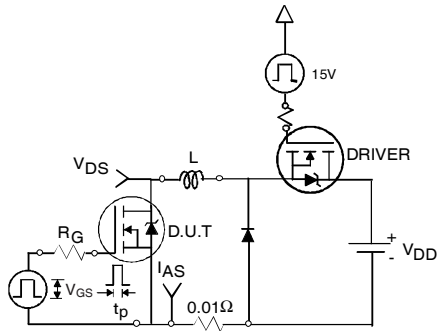

Fig 12a. Unclamped Inductive Test Circuit
- ③ Pulse width ≤ 1.0ms; duty cycle ≤ 2%.
- ④ C_{oss eff.} is a fixed capacitance that gives the same charging time as C_{oss} while V_{DS} is rising from 0 to 80% V_{DSS}.
- ⑤ C_{oss eff.} is a fixed capacitance that gives the same charging time as C_{oss} while V_{DS} is rising from 0 to 80% V_{DSS}.
- ⑥ Limited by T_{Jmax}, see Fig.12a, 12b, 15, 16 for typical repetitive avalanche performance.
- ⑦ This value determined from sample failure population. 100% tested to this value in production.
- ⑧ R_θ is measured at T_J of approximately 90°C.
3. Equation below based on circuit and waveforms shown in Figures 12a, 12b.